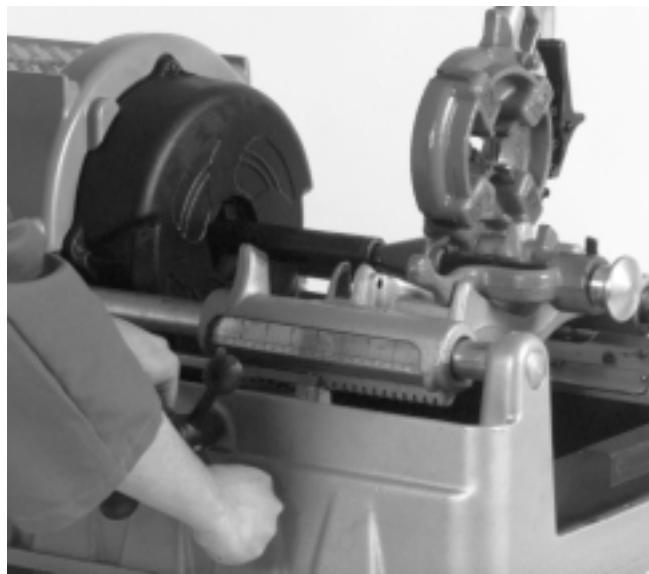

Figure 7 – Reaming with 341 Reamer
4. Position reamer into pipe and complete reaming by exerting pressure on handwheel. (*Figure 7*)